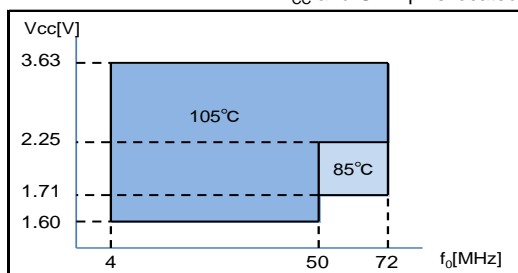

Figure 1: The upper limit of Operating temperature and the related conditions
① ② ③ ④⑤⑥⑦
①Model ②Output (C:CMOS) ③Frequency ④Supply voltage
⑤Frequency tolerance ⑥Operating temperature ⑦Internal identification code ("A" is default)
④Supply voltage Refer to Figure 1
\*Figure 1 is on the next page